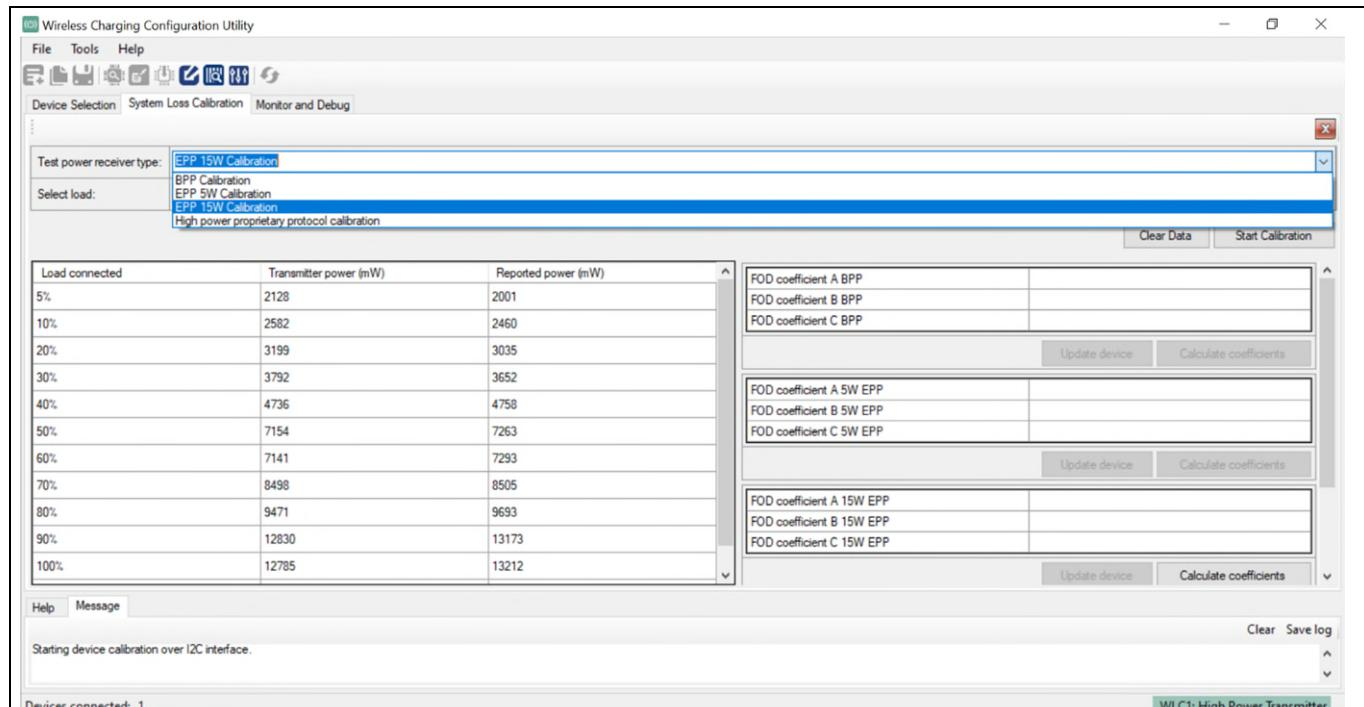

Figure 28 System loss calibration interface through Configuration Utility for TPR selection
10. Select the TPR type based on the operating mode from the **Test Power receiver type** dropdown menu as shown in Figure 28.